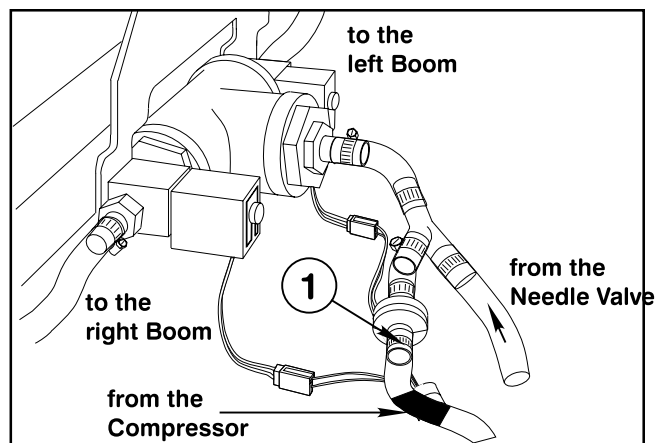

Fig. 9
21. Slide the marked Supply Hose onto the barb on the Check Valve located at the Tee Assembly. Connect the other Supply Hose to the barbed "Y" at the Tee Assembly. Secure with hose clamps. Verify that the marked Supply Hose is connected at the Compressor and the Check Valve. If not, correct before using. (Fig. 9)
22. Connect the right Boom Hose to the right side Solenoid Valve Assembly and the left Supply Hose to the left side Solenoid Assembly. Secure both hoses with hose clamps. (Fig. 9)